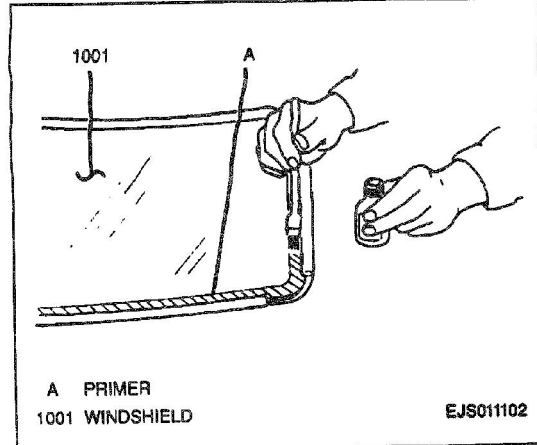

Figure 12—Applying Primer to Windshield
6. Using a new brush, apply primer #1 to edge and inner surface of windshield (Figure 12).
7. Using a new brush, apply primer #2 to edge and inner surface of windshield (Figure 12).